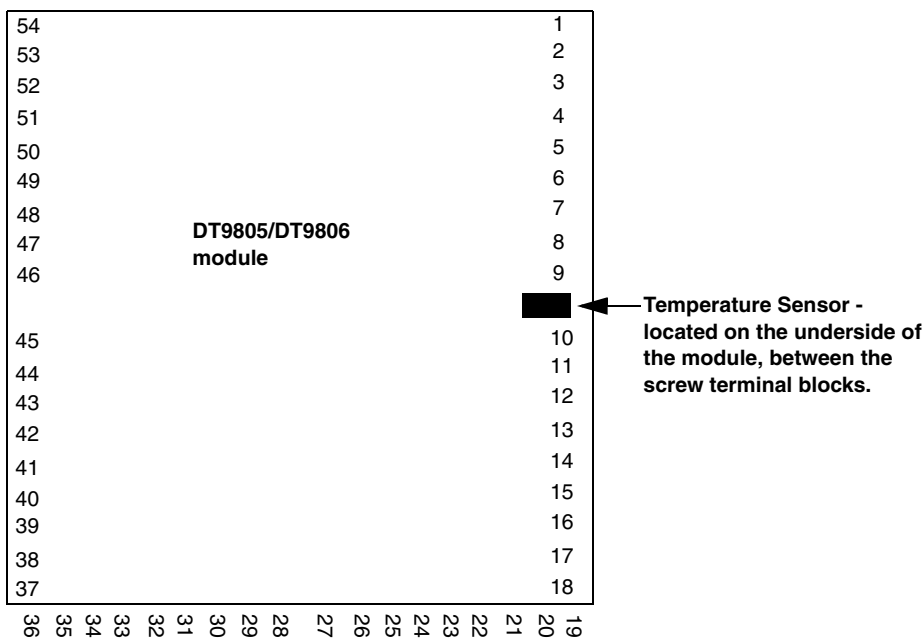

Figure 61: Temperature Sensor Location
5. Measure the room temperature at the temperature sensor of the board (see Figure 61) by taping a thermometer to the underside of the module between screw terminals 9 and 10, then multiply this value by 10 mV.